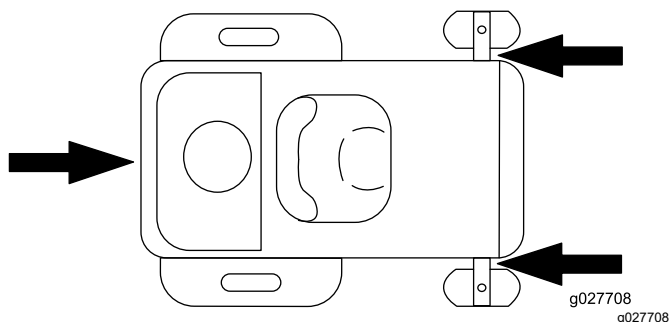

Figure 29
6. Tie down the machine near the front caster wheels and the rear frame with straps, chains, cable, or ropes (Figure 29). Refer to local regulations for tie-down requirements.